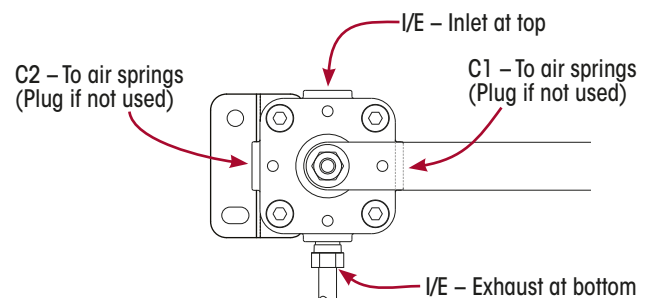
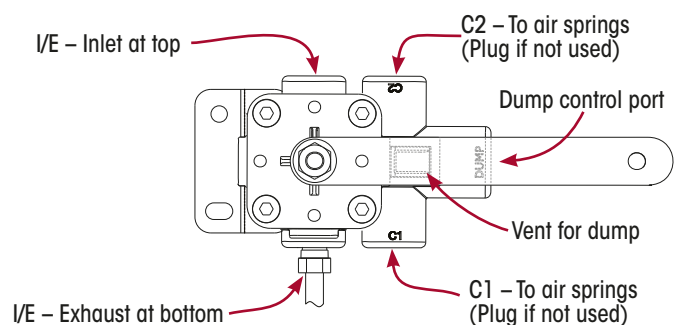

Figure 185: HCV Port Description – Without Dump
Figure 186: HCV Dump Valve Port Description
3. Install fittings into HCV ports. Use a drop of oil or thread sealant to lubricate the threaded connections. Fit blanking plug to the unused ports if both are not used. The fitting for air supply will always be at the top of the valve for either orientation. Install exhaust fitting and PVC hose to lower HCV port. If being operated in adverse or harsh conditions, fit a longer tube and loop it to prevent ingress of dirt, dust or mud. Refer to the relevant parts list for the suspension being serviced. Refer to Figure 185 and Figure 186.